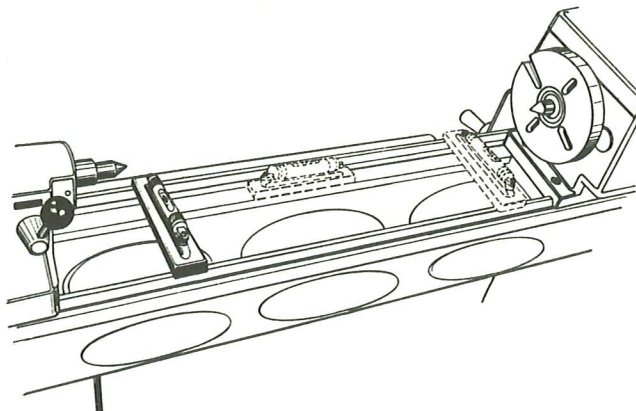

Figure 3
1. First level bed longitudinally, compensate for variations of bubble readings by turning the leveling screws on the cabinet base until bed is level -- refer to figure 3 for level positions.
2. Next level both ends of the bed. The headstock and the tailstock -- must be checked with the level placed at right angles to the bed. Refer to figure 3. Use a square to align the level. *Do not turn level end for end.*